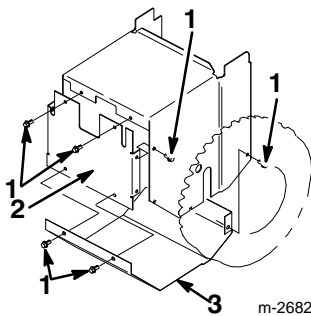

Figure 30
- Remove the eight screws that secure the back and bottom covers and remove the covers (Fig. 30).